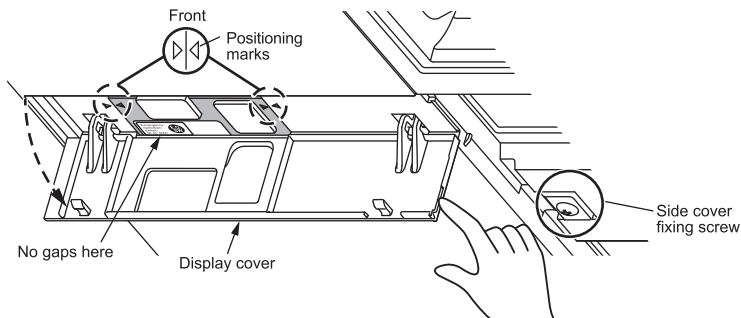

Fig. 9
- Open the display cover and check that the positioning marks are aligned correctly. (Fig. 9)
- Make sure that there are no gaps between the emergency operation switch (E.O.S.W) and the side cover. (Fig. 9)
11. Fix the side covers L/R with the side cover fixing screws removed in step 2. (Fig. 9)